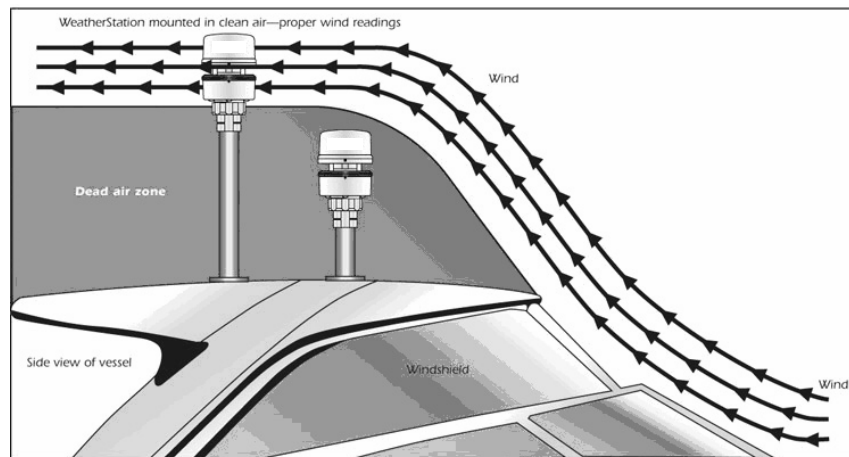

Figure 12. Boat/vehicle mounting location (boat shown)
*Move the WeatherStation instrument farther back and higher (see Figure 12).*